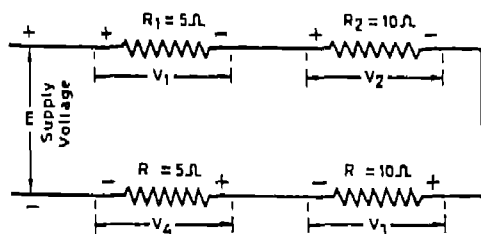

Fig 11.2 Four Resistances in Series
- (i) Connect resistors as shown in Fig. 11.2 and measure resistance of the whole circuit as well as of each resistor using a multimeter. Record the observations. It shows $R_{eq} = R_1 + R_2 + R_3 + R_4$.